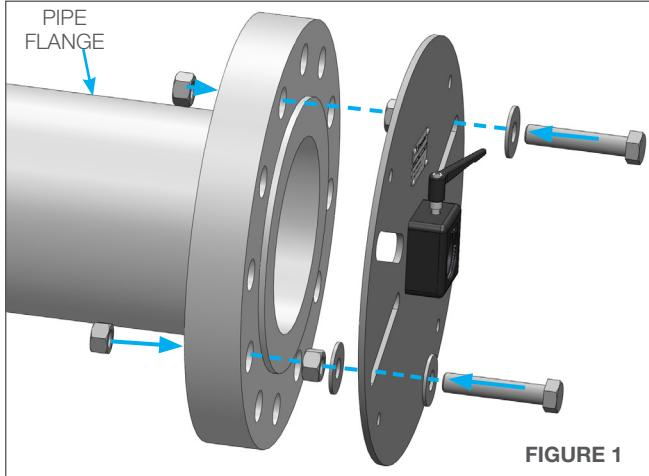

FIGURE 1
1. Attach the Quarter Plate Flange Mount to the pipe flange using the fasteners that were removed from the flange joint. The nuts shown between the pipe flange and the Quarter Plate Flange Mount are to allow for drainage. Other spacer options such as washers are acceptable. (**Figure 1**)
1. Attach the 4"-8" Flange Mount Plate to the pipe flange using the fasteners that were removed from the flange joint. The nuts shown between the flange and the Flange Mount Plate are to allow for drainage. Other spacer options are acceptable. (**Figure 1**)
1. Attach the strap end to the strap capture bar and wrap the strap around the pipe towards the Winch Assembly. (**Figure 1**)
1. Loosen the screws on both collet cap blocks. Slide the BOP 030 Collet Block Assembly onto the guide tube on the ABX-PRO and tighten the two screws until secure. Slide the BOP 081-6 Snout Tube into the BOP 030 Collet Block Assembly. Push the Snout Tube in until it stops, then tighten the two until secure. (**Figure 1**)
1. Slide the Female Positioner Arm onto the Male Positioner Arm. (**Figure 1**) Line up the incremental holes and push the Quick Release Pin through both positioner arms. (**Figure 1.1**)
- To load a hose, release the Adjustable Handle and rotate the Cam Lever until the Indicator Pin is in the “**Disengaged**” position. This opens up the space between the rollers. (**Figure 1**)